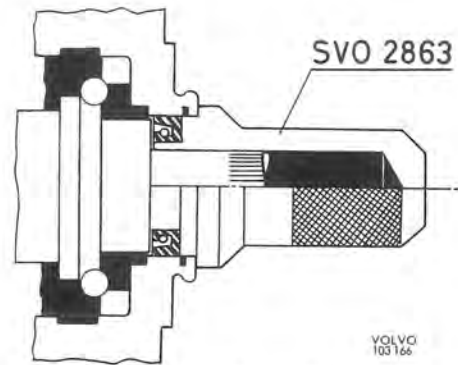

Fig. 6-56. Installing sealing ring
5. Fill the space between the new sealing ring lips with multipurpose grease. Fit the sealing ring on to installation tool 2863 with the help of the loose guide. Remove the guide and fit the sealing ring in the steering housing, see Fig. 6-56.